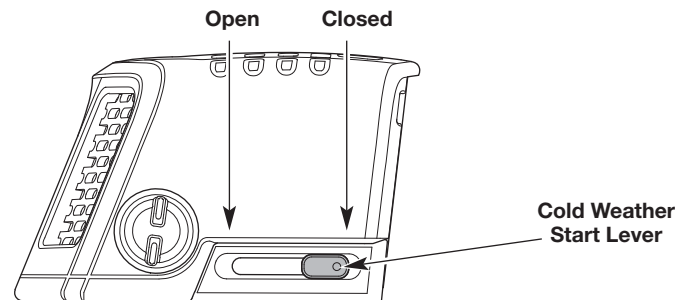

Fig. 10
IF COLD... In cold weather (below 40°F), move the cold weather start lever to the **Closed** position (Fig. 10). **DO NOT** move the cold weather start lever to the **Closed** position if the temperature is above 40°F.
IF COLD... In cold weather (below 40°F), move the cold weather start lever back to the **Open** position (Fig. 10).
- IF COLD...** In cold weather (below 40°F), move the cold weather start lever to the **Closed** position (Fig. 10). **DO NOT** move the cold weather start lever to the **Closed** position if the temperature is above 40°F.